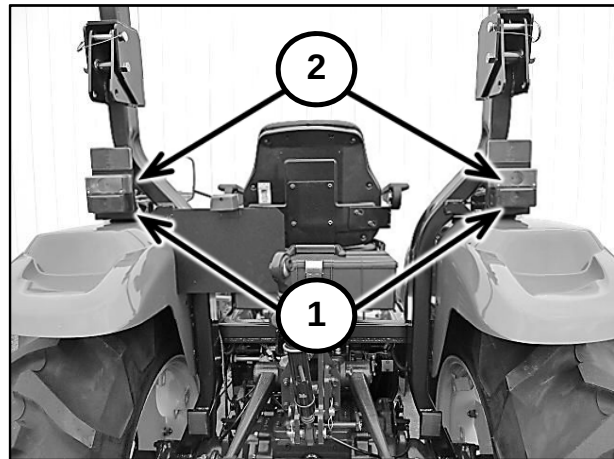
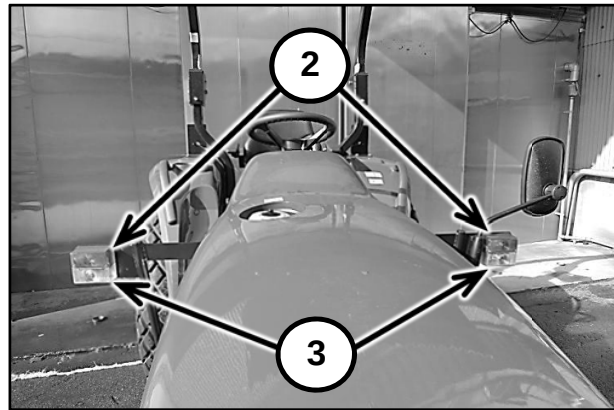

Figure 3-36
Figure 3-37
The tractor is equipped with two taillights (1) in Figure 3-36, and four flasher-warning lights (2) in Figure 3-36, 3-37, and two side-and-front position lights (3) in Figure 3-37, mounted on the ROPS and mirror stay.